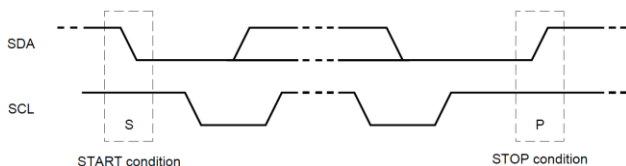

Figure 9: Start and Stop Conditions
Start (S) conditions and stop (P) conditions are signaled by the master device, which signifies the beginning and the end of the I²C transfer. A start condition is defined as the SDA signal transitioning from high to low while the SCL line is high. A stop condition is defined as the SDA signal transitioning from low to high while the SCL line is high (see Figure 9).